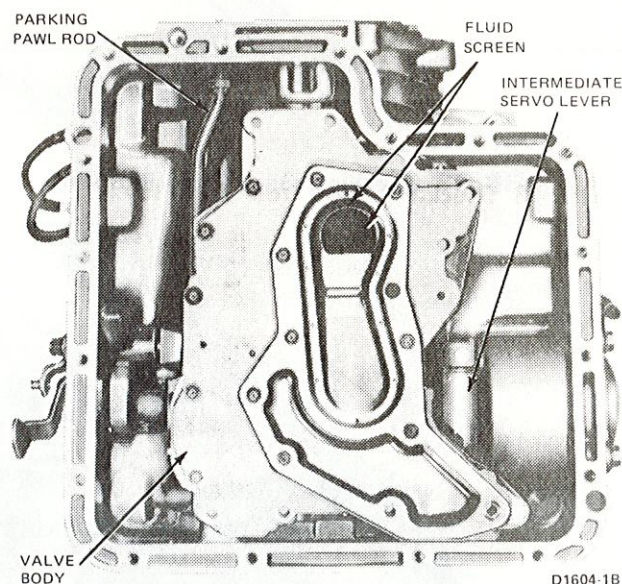

FIG. 12 Transmission With Pan Removed
3. Remove the eight valve body attaching bolts. Lift the valve body (Fig. 12) from the transmission case.